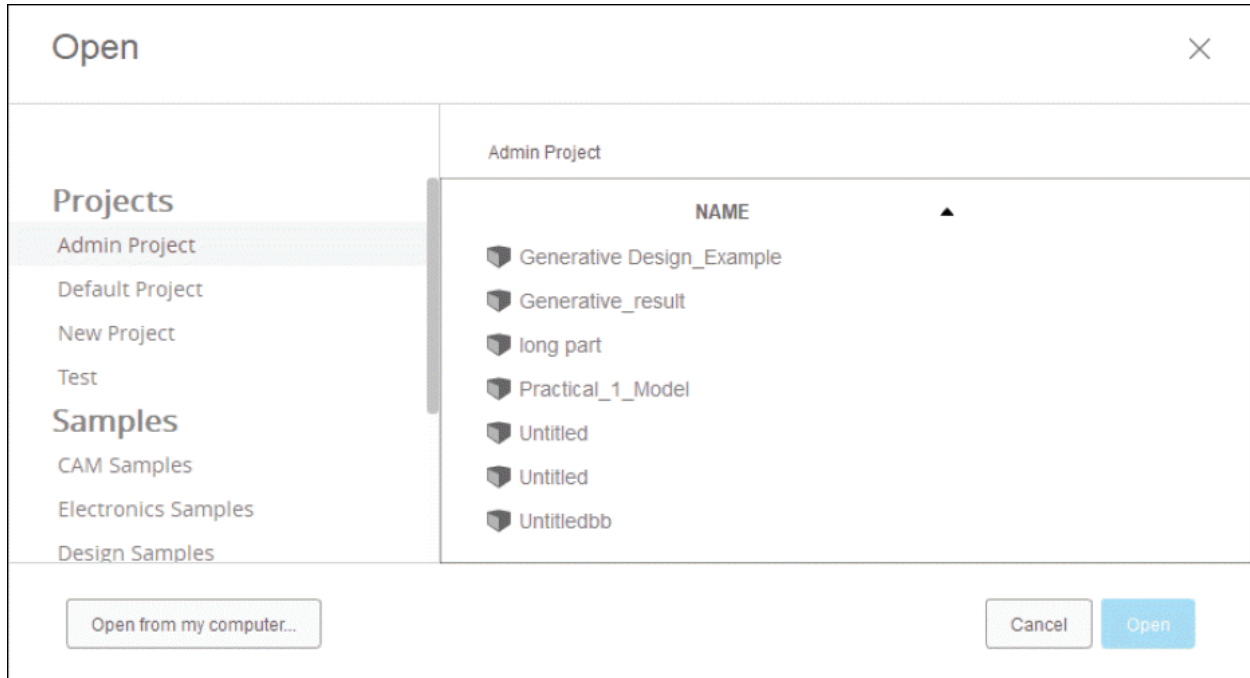

Figure-12. Open dialog box
- Click on the **Open** tool from the **File** menu or press **CTRL+O** from keyboard. The **Open** dialog box will be displayed; refer to Figure-12. Note that we are working in online mode of Autodesk Fusion.